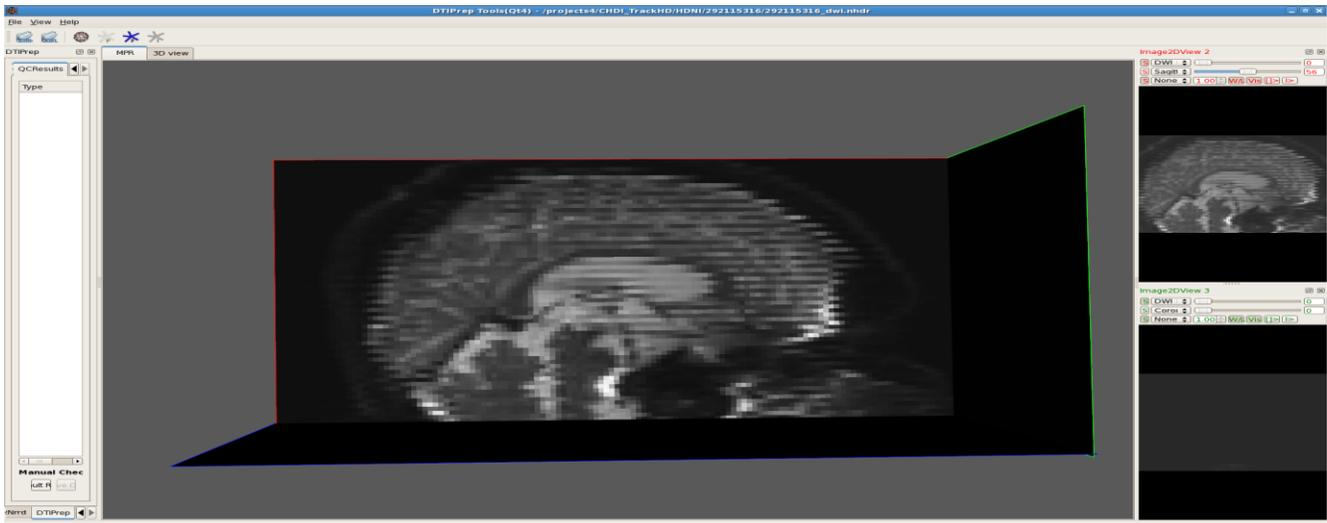

Figure 1.4 “Venetian Blind” Effect A clear example of the “venetian blind” artifact as seen in DTIPrep
- iv. Run the extraction script, `ExtractGradDir.py` on the `~QCed.nhdr` file, to remove directions deemed appropriate for manual exclusion based on image quality. These include gradients with “venetian blind” effects (Fig. 1.4), “checkers” effects Fig. (1.5), motion artifacts as well as gradients containing one or more axial slices displaying higher or lower intensities across the whole slice (Fig. 1.7).